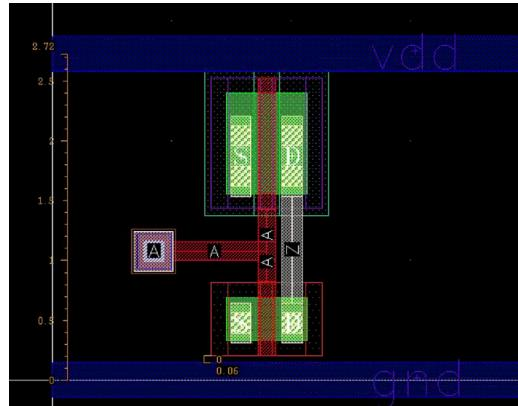

Figure 9: Metal 1 rectangle creation and placement for the power supply lines.
- Select MET1-drawing as a layer. Press **r** and draw a rectangle of random dimensions, as depicted in Fig. 9. Then select the metal 1 rectangle, click on **q** and change its width and height to $4.6\mu m$ and $0.29\mu m$ respectively.
- Place the metal 1 rectangle on top of the *pmos* transistor, with a distance of $0\mu m$ from the *NWELL* layer as shown Fig. 9.